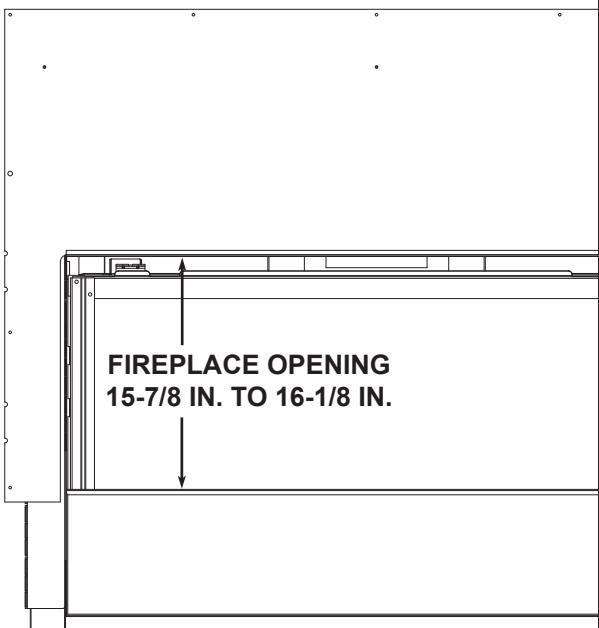

Figure 13.4. Required Fireplace Opening Height
Verify that the lower cover panel is installed correctly, and that the fireplace opening height is between 15-7/8 in. and 16-1/8 in. See Figure 13.4.
**Note:** The lower cover panel must be pushed all the way down. The fireplace opening must be between 15-7/8 in. and 16-1/8 in. for the decorative fronts to fit correctly. See Figure 13.4.